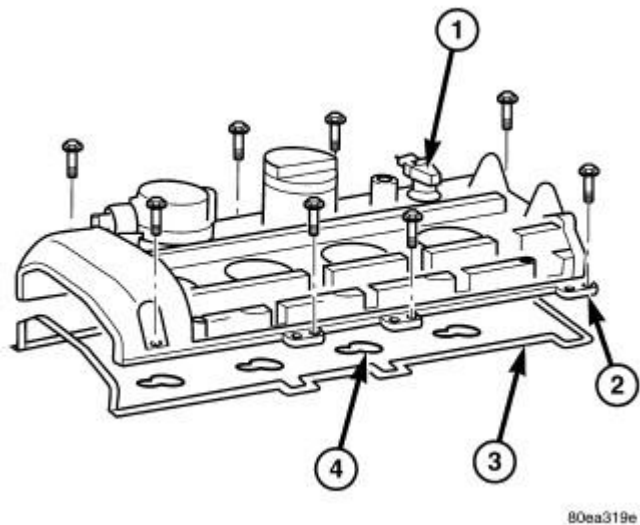

Fig. 121: Cylinder Head Cover - Typical
10. Remove cylinder head cover retaining bolts and remove cover (2). See **Fig. 121**.